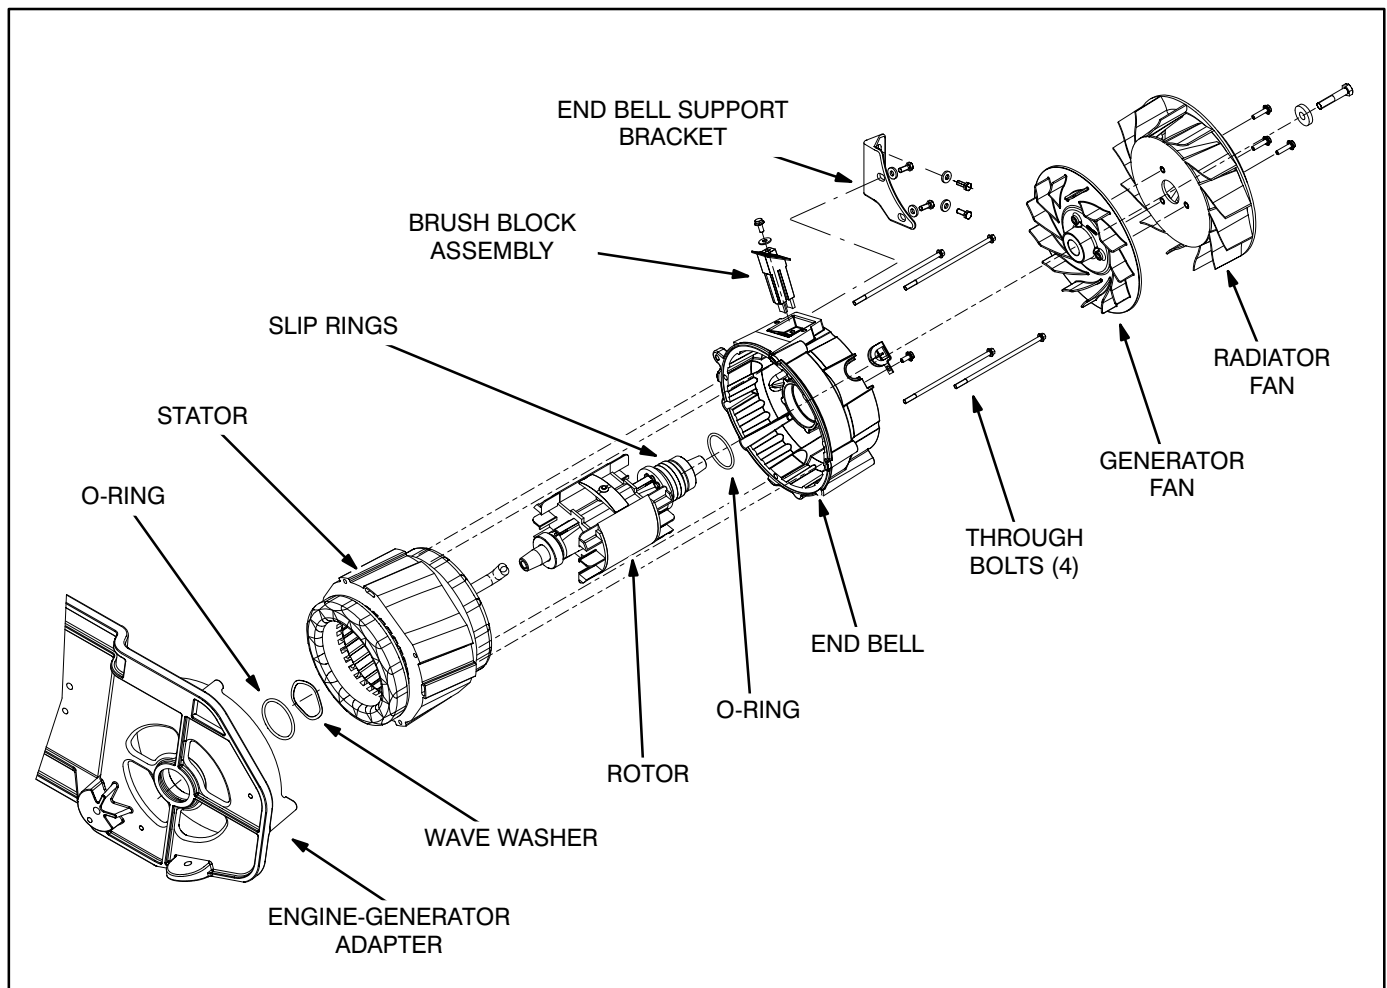

FIGURE 6-1. GENERATOR
These are belt-driven, 2-bearing, 2-pole (3600 rpm), revolving-field generators with brushes and slip rings (Figure 6-1). Output voltage is regulated by microcontroller-based genset controller A1 (Page 5-1).
2. Remove the brush block (Figure 6-1).